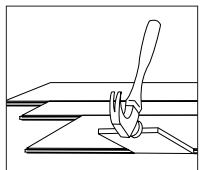

Figure 12
- It may be necessary to align the product with a cut-off piece of scrap as shown (Figure 12). Keep scrap angle low to avoid edge damage.